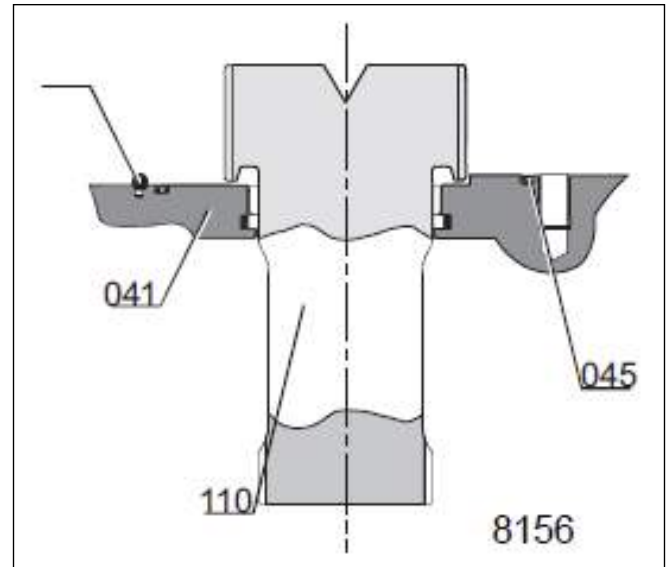

Figure 3-48: Install New O-Ring
16. Install a new O-ring, item 045, in the cover, item 041. See Figure 3-48.